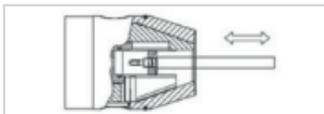

Figure 11: Pulling out threaded pin
- Pull the assembly tool and threaded pin out of the precision drill chuck (see "Figure 11: Pulling out threaded pin").